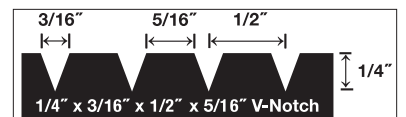

Figure 2
- 3/16" x 1/4" x 5/16" (5 mm x 6 mm x 8 mm) Trowel (Figure 2)